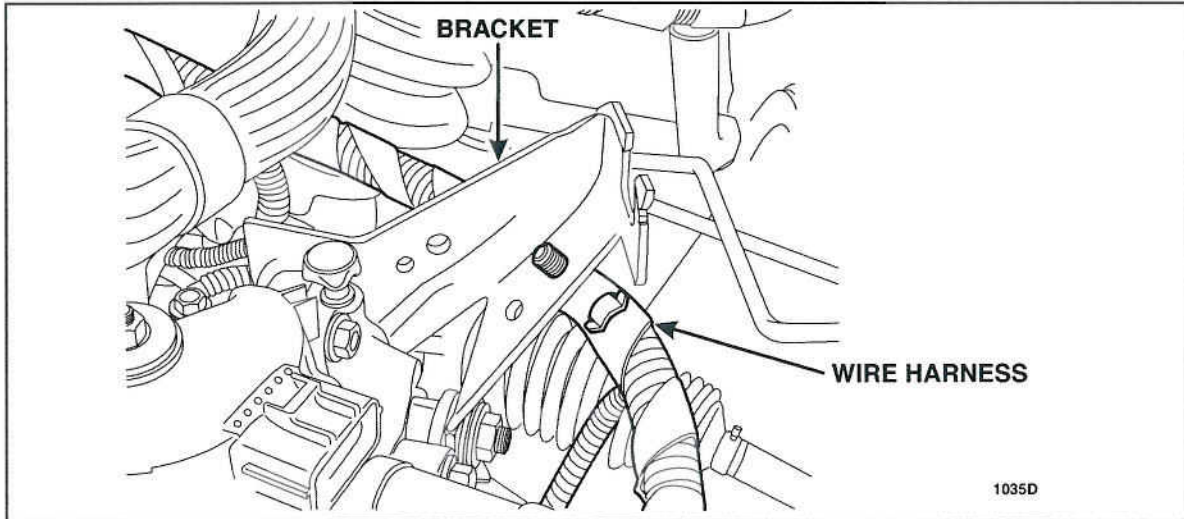

FIGURE 4
10. Disconnect the wire harness from the bracket. See Figure 4.